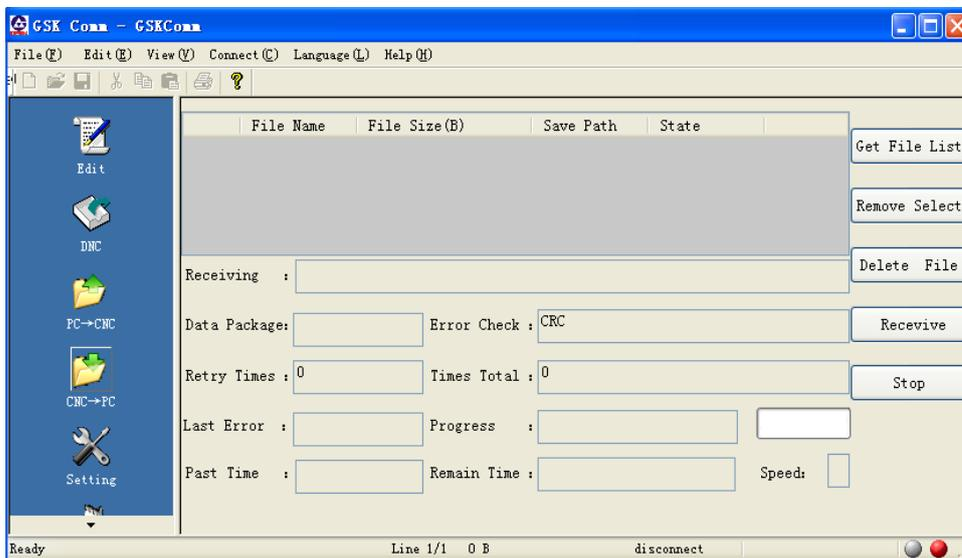

Fig. 11-2-2-1
3. Click button **Get List** to obtain the CNC file list, which is shown in Fig. 11-2-2-2: